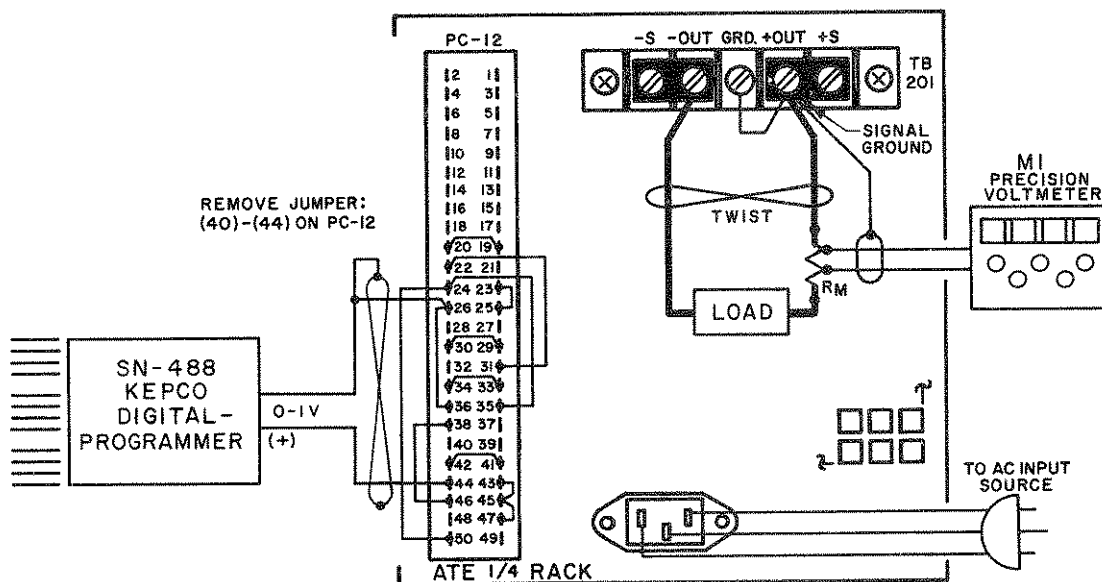

FIG. 3-11 CONNECTIONS FOR OUTPUT CURRENT CONTROL WITH A 0-1 VOLT CONTROL SIGNAL (KEPCO SN-488 DIGITAL PROGRAMMER).
3-58 GENERAL. The ATE output current, controlled by a front panel CURRENT CONTROL rheostat in the local control mode, can be remotely controlled by disconnecting the 15V bias from the non-inverting input of the EXT. CURRENT COMPARISON AMPL at the REAR PROGRAMMING CONNECTOR, and applying a 0 to 1 volt external control signal with reference to the ATE COMMON terminal. Since the non-inverting input of the EXT. CURRENT COMPARISON AMPL is used, only the small amplifier bias current must be supplied by the external control source. IN ALL CURRENT PROGRAMMING APPLICATIONS, THE FRONT PANEL CURRENT CONTROL SETTING OF THE ATE ACTS AS A "BACK-UP" CURRENT LIMIT AND MUST BE SET SLIGHTLY HIGHER THAN THE REQUIRED MAXIMUM OUTPUT CURRENT. An application, demonstrating this control method is described in PAR. 3-60 and illustrated in FIG. 3-11.
- 1) Connect the EXT. CONTROL VOLTAGE, (Model SN-488 Digital Programmer), the LOAD and the PRECISION VOLTMETER (M1) to the ATE as shown in FIG. 3-11.
Note: The output current value can be measured directly by means of a suitable ammeter in series with the load or, as indicated in FIG. 3-11, indirectly by means of the precision voltmeter (M1) across a current measuring resistor ( $R_M$ ).  $R_M$  should be selected such that a convenient range on the precision voltmeter can be used, e.g., for a 10 ampere output current, use a 0.1 ohm resistor to produce a one volt full scale reading. If an electronic voltmeter is used, it should be battery-operated to avoid ground loops.